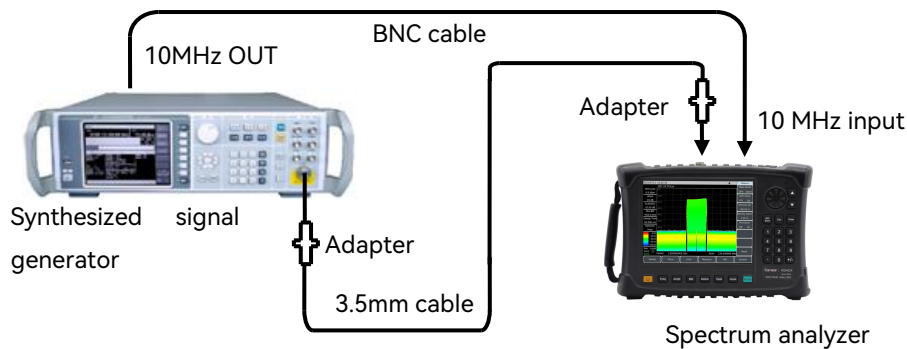

Figure 12-14 Mirror, multiple and out-of-band response test settings
1) Connect the test instrument according to Figure 12-14. The synthesized signal generator 1464A provides frequency reference for the spectrum analyzer;